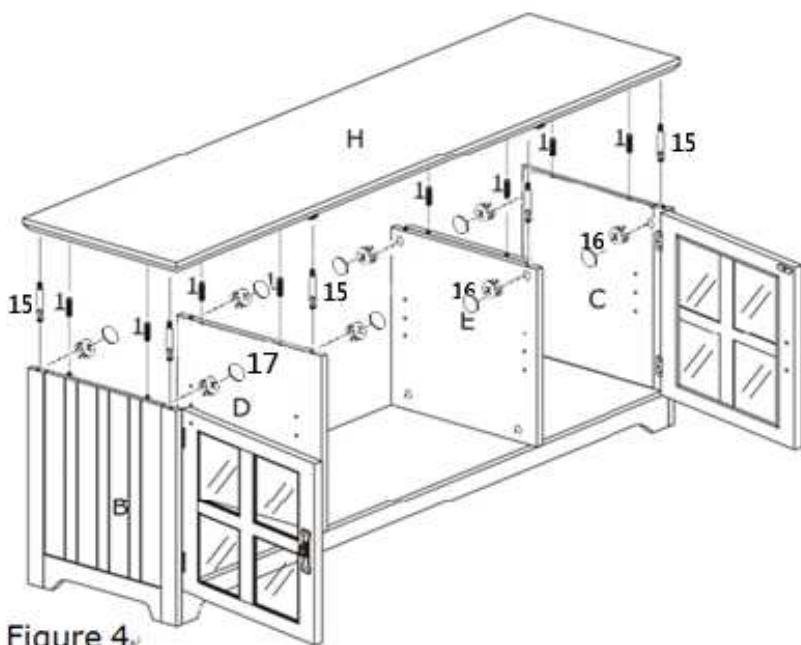

Figure 4
Attach Back Panel (I) to pre-assembled unit from Figure 4 with Screws For Back (7).